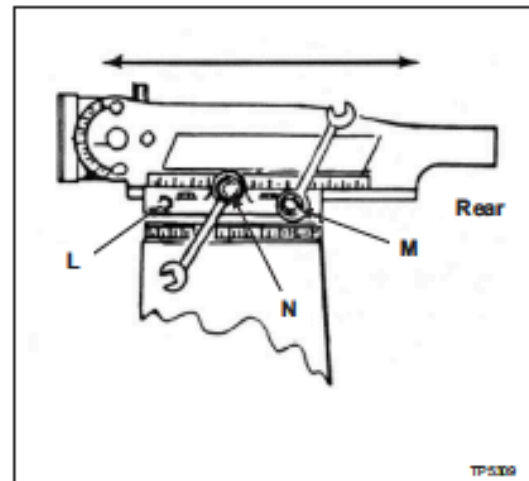

Figure 2.25 - Ram Slide
1. Use wrench provided with machine to loosen bolts "L" and "M", Figure 2.25.